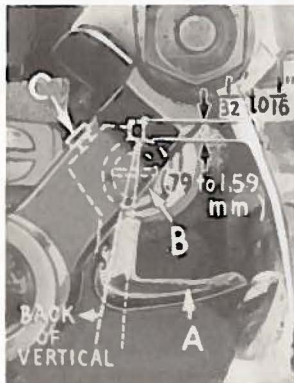

Fig. 9
Insert upper looper (A, Fig. 9) in its holder. Screw (B) holds upper looper in its holder, and permits it to be pushed in or out, or turned around its shank. Insert upper looper holder into upper looper shaft, if it is not already in place. Screw (C) in clamp, holds the upper looper holder in the shaft. Locate upper looper in its holder so that the shank extends $1/32$ to $1/16$ inch (.79 to 1.59 mm) beyond holder (Fig. 9).
When the upper looper is at the right end of its stroke, upper looper holder should be set to position upper looper shank slightly back of vertical (Fig. 9).